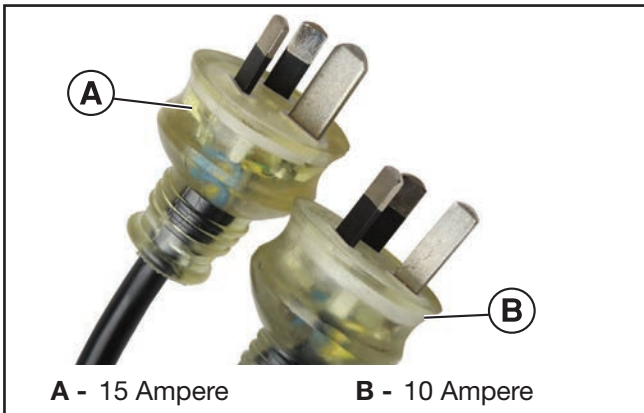

Figure 27 – 240-Volt AC Three-Pin Plugs
240-Volt AC devices may be fitted with either a three-pin 15 Ampere (typically abbreviated “15 Amp” or “15 A”) plug or a three-pin 10 Ampere (“10 Amp” or “10 A”) plug as shown in *Figure 27*. Certain double-insulated devices may be fitted with a two-pin 10 A plug that doesn’t have an earth pin (which is the longer, vertical pin).
3. Use only extra heavy duty 15 A extension cords made from 3-core cable of at least 1.5 mm^2 conductor size and fitted with 15 A plugs and sockets (see Figure 27). A 15 A plug cannot be inserted into a standard domestic 10 A socket.